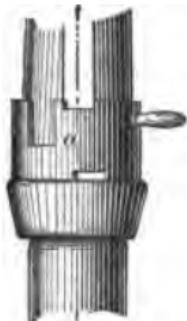

FIG. 109.—GOVERNOR SAFETY COLLAR.
also the governor rods and fixtures. The cut-off rods are already adjusted to proper length before shipment from the shop and screwed up tight. If loosened by accident, they should be set thus: set the governor in the top notch of the collar (see Fig. 109), unhook second eccentric rod from disc plate,
A. The safety collar on governor (*A* fig. 109) is provided with a spring which turns it. This collar is properly spaced so that the deep notch takes place of the shallow one ; and should the governor belt break, the governor would drop so low that the adjustable toe on the cut-off cam would prevent the claw from engaging the blow block, thus stopping the engine, as no steam would be admitted to the cylinder.